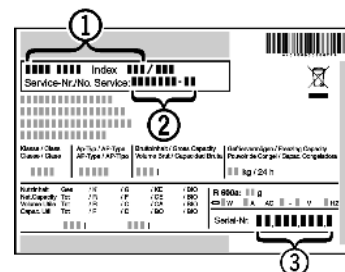

Fig. 42
- Read off the appliance name *Fig. 42 (1)*, service no. *Fig. 42 (2)* and serial no. *Fig. 42 (3)* from the model plate. The model plate can be found on the inside of the appliance on the left.